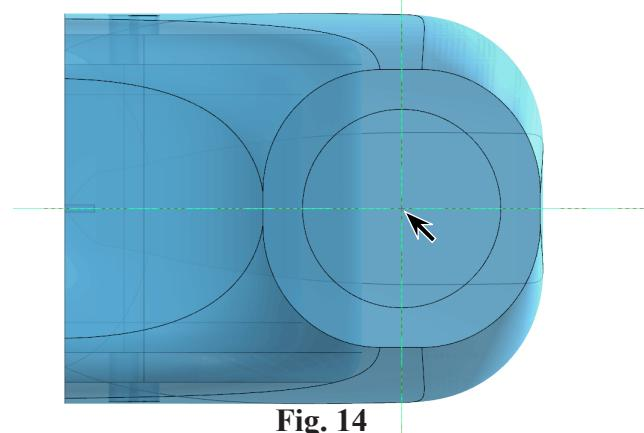

Fig. 14
Step 2. Confirm Origin is in center of cartridge hole, **Fig. 14**.